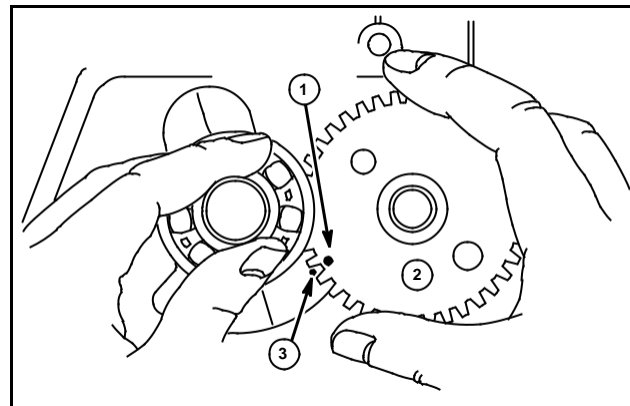

Fig. 14
3. Install both crankshaft and cam gear (2) together, with timing marks (1, 3) aligned, Fig. 14.